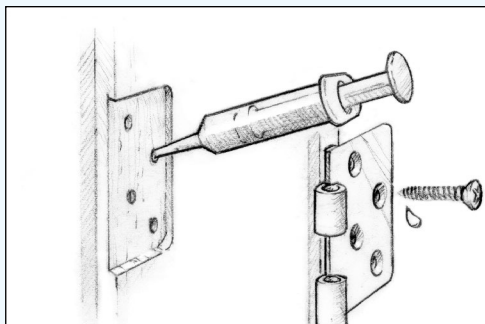

Figure 15 Wet out a standard pilot hole and install the fastener.
1. Wet out a standard-size pilot hole and work the resin/hardener mix into the hole with a pipe cleaner or syringe (*Figure 15*). Thicken a second coat of epoxy as necessary for stripped or oversized holes.